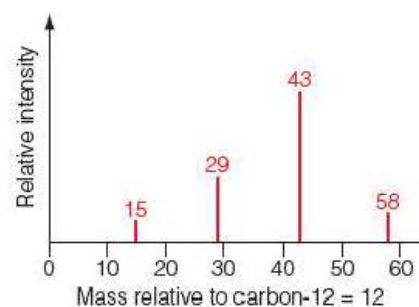

Figure 3.6 ▲
- Look carefully at Figure 3.6.